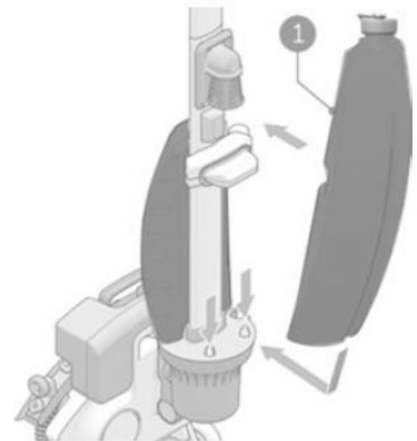

Fig. 4
1. Put the tank (Fig.4, pos 1) on the i-mop® Lite with the bottom first.